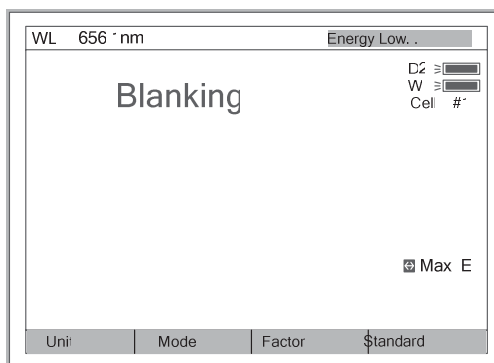
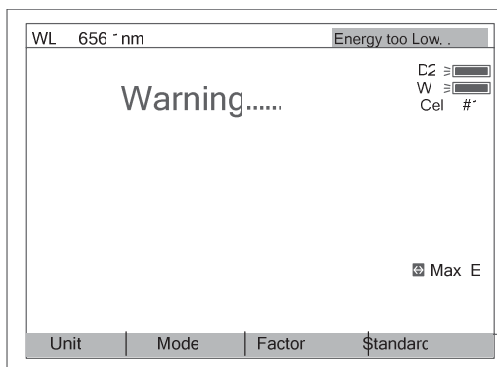

Fig 7
Fig 8
Note:1. If the reference solution is too thick, “Energy Low...” will appear following the “Blanking...” on the screen (Fig 7). If “Energy too Low...” appears following the “Blanking...”, the test will be paused and “Warning...” will appear on the screen. (Fig 8).
2. If no automatic changer installed “cell #1” and “Max E” will disappear in Fig 7